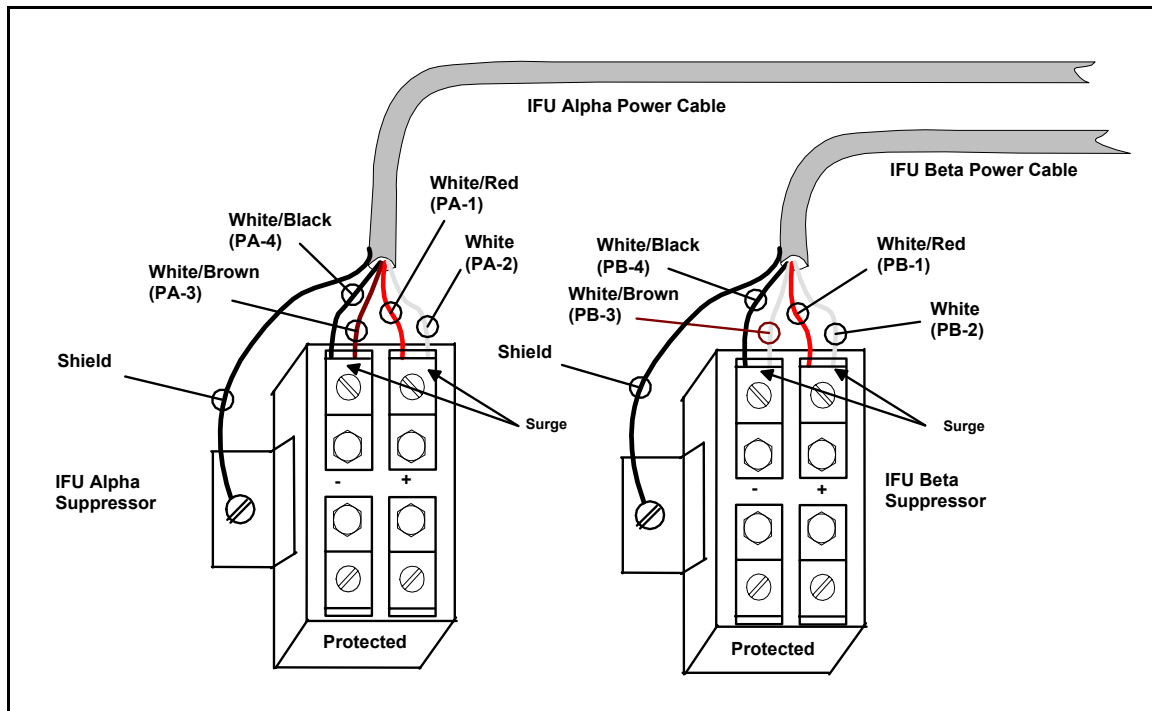
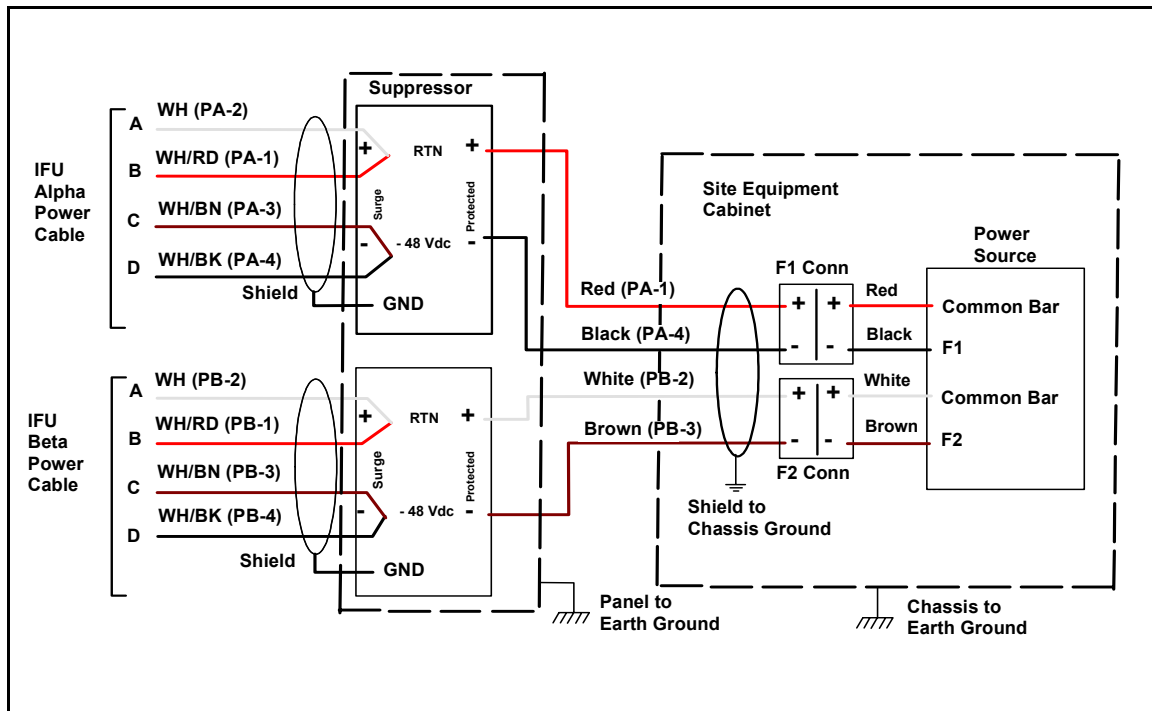

Figure 3-3. Typical Power Cable Wiring
Figure 3-4. Typical IFU Power Termination Wiring Schematic
- 4 Attach the IFU power cables to the surge suppressors as shown on Figure 3-3, Table 3-3, and Figure 3-4.